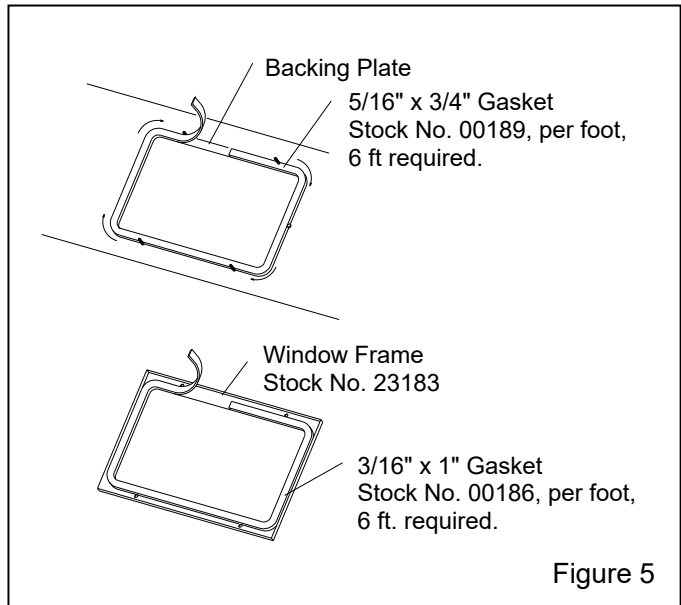

Figure 5
**4.3** Peel a short section of gasket backing from the 5/16" x 3/4" strip gasket, and adhere the gasket to the center top edge of the backing plate opening as shown in Figure 5. Peel additional backing as needed, and work the strip around the radius of each corner, pressing it tightly to bond. Trim the gasket to fit, and compress the ends to seal.